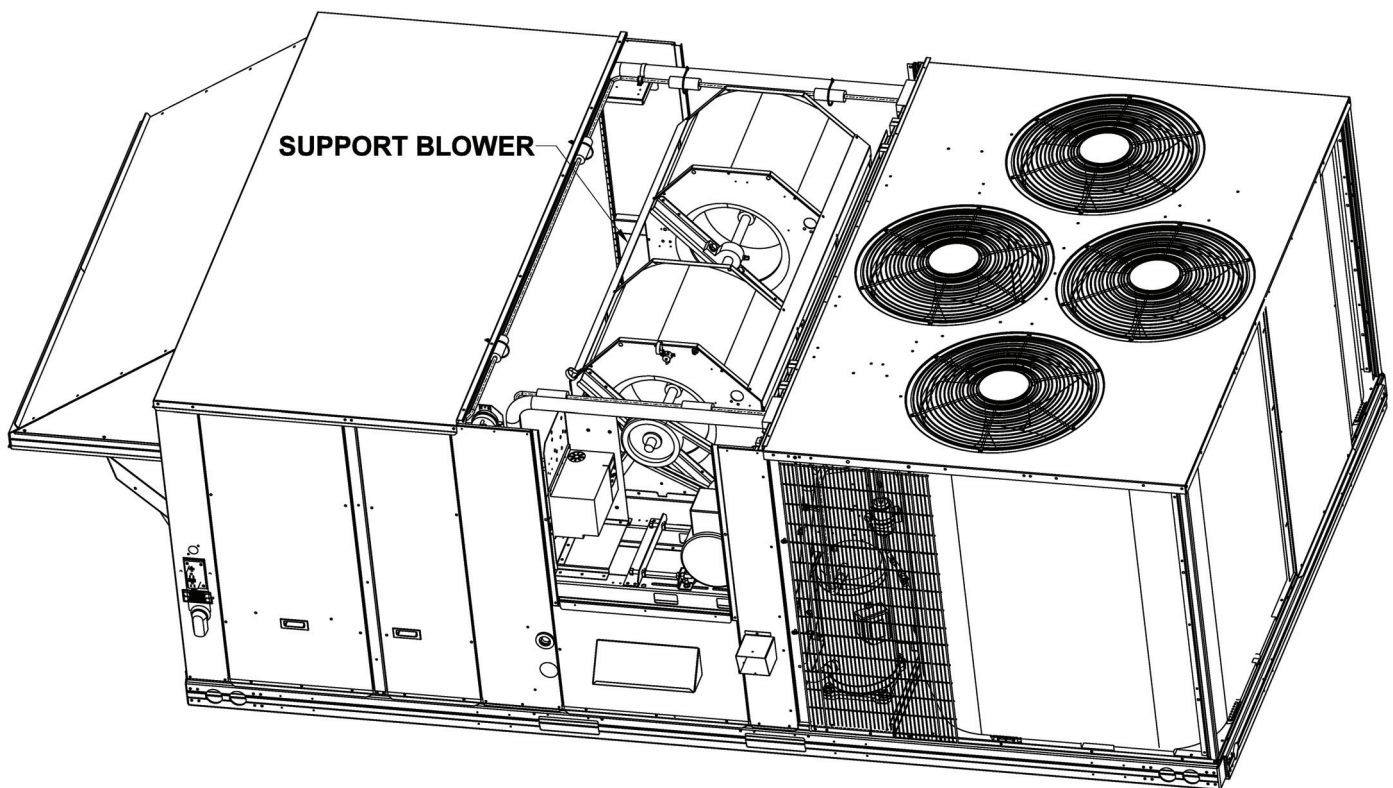

Fig. 12 — Support Blowers
2. Remove the Blower Support near the Evaporator Coil. (See Fig. 12.)